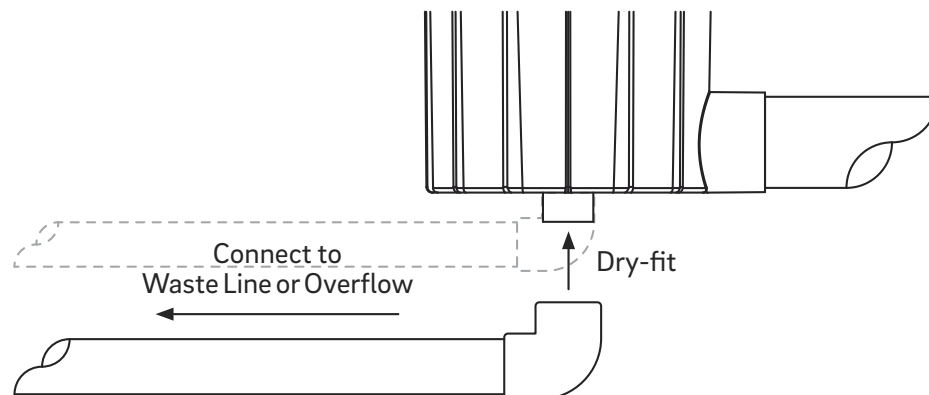

Figure 8
4. From the 90° elbow, configure the overflow line so that it lines up with the pipe coming from the waste line or overflow pit. Now glue both sides of the dry-fit 90° elbow in place (Figure 8).